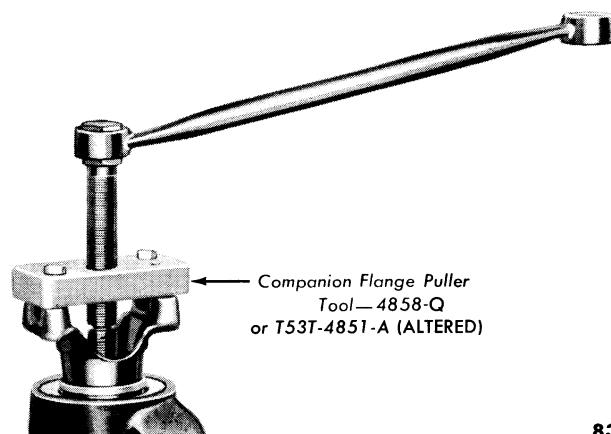
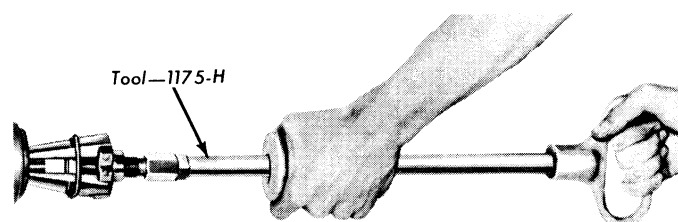

Fig. 6—Universal Joint Flange Removal
Fig. 7—Drive Pinion Oil Seal Removal
Disconnect the drive shaft at the rear universal joint. Mark the position of the universal joint flange, nut, and pinion shaft with a punch to aid in obtaining the same pre-load when assembling the unit. Remove the universal joint flange nut and washer. Remove the flange from the pinion shaft with the puller shown in fig. 6. Install an oil seal puller and pull the pinion oil seal out of the carrier (fig. 7).
(3) **DRIVE PINION REMOVAL AND DISASSEMBLY.** Remove the universal joint flange nut and washer, then pull the flange off the drive pinion (fig. 6). Lift the drive pinion, rear bearing, and bearing spacer out of the carrier.
Remove the oil seal using the tool shown in fig. 7. Lift the oil slinger and front bearing out of the carrier.